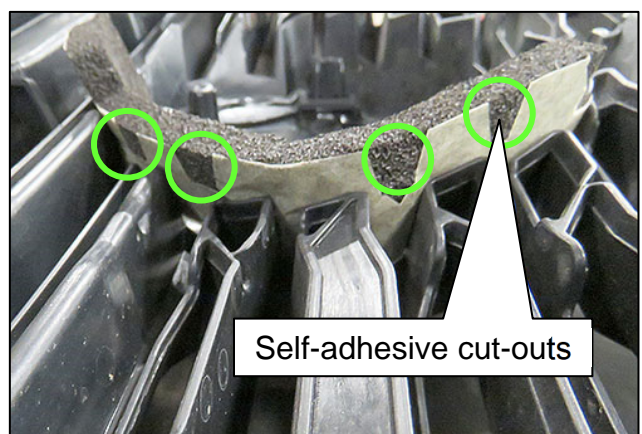
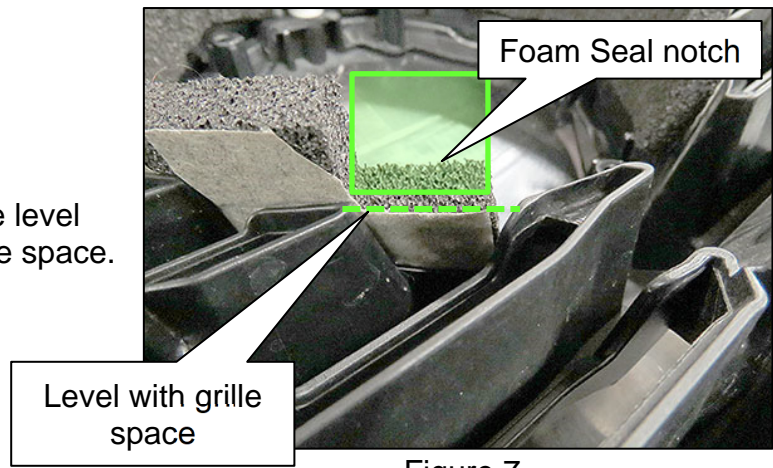

Figure 6
Figure 7
6. Continue attaching the foam as shown in Figure 6 and Figure 7 on page 5.